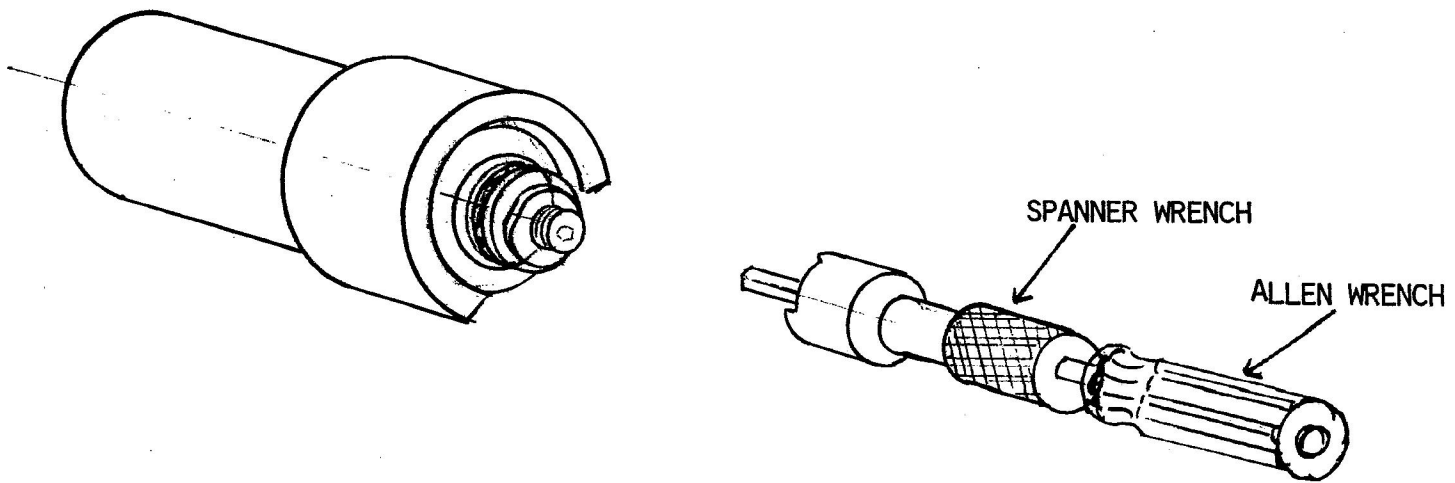

Figure 3-8. Use of Installation/Removal Tool
- o. Use the installation/removal tool to tighten the nut (figure 3-8). Hold the Allen wrench handle to keep the spindle from turning while tightening the nut with the spanner.